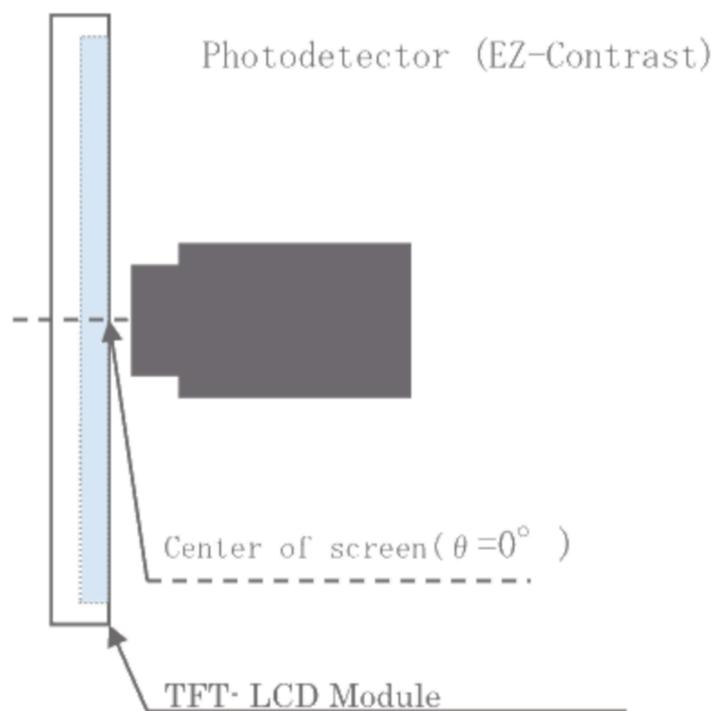

Fig13-1 Viewing angle / Range measurement method
*Measuring after 30minutes operation. The measurement of the optical character is measured by using the method of fig.13-1 and fig.13-2 under the condition which is equal to the darkroom or the darkroom.